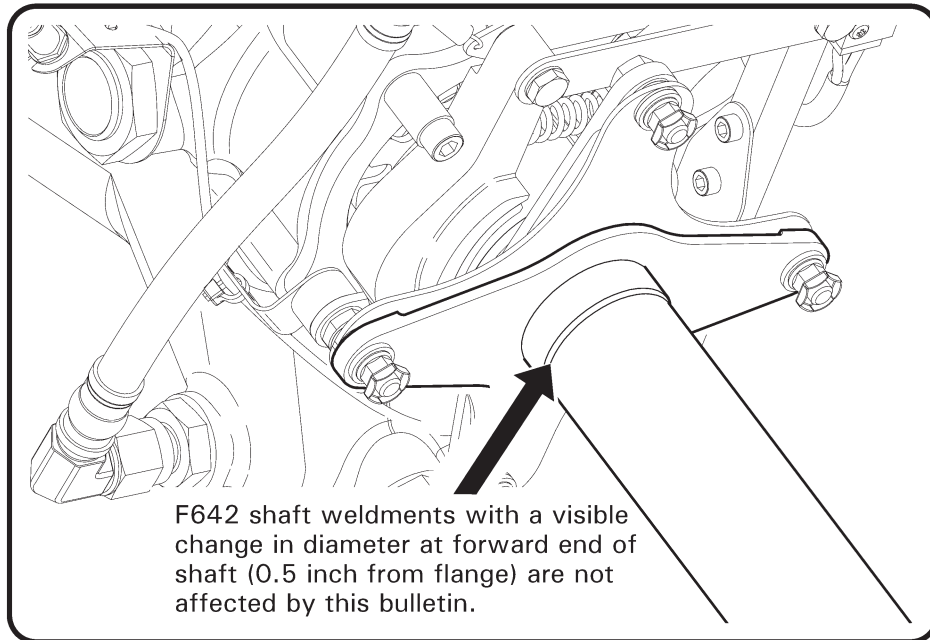

FIGURE 1
1. Refer to Figure 1. Visually inspect forward end of installed F642 shaft weldment for a visible change in diameter. Shafts with a change in diameter at location shown are not affected by this bulletin; no further action is required.